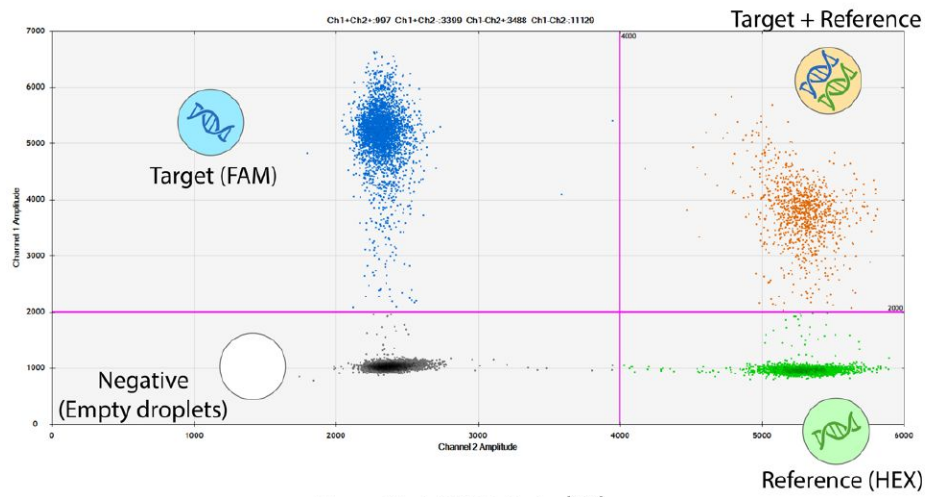
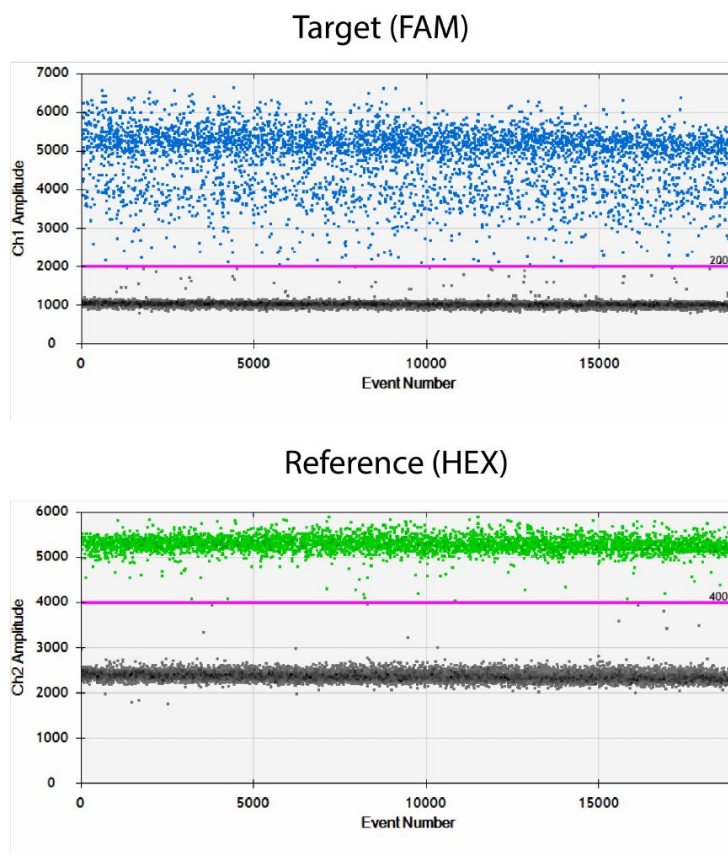

Figure 15. ddPCR 2-D plot [3,11]
Figure 16. ddPCR 1-D plot [11]
- Make sure the positive droplets (blue/green) are separated from the negative droplets (grey) (Figure 15-Figure 16)
11. Data from Figures Figure 15-Figure 16 are generated from Bio-Rad QuantaSoft™ Analysis Pro Software